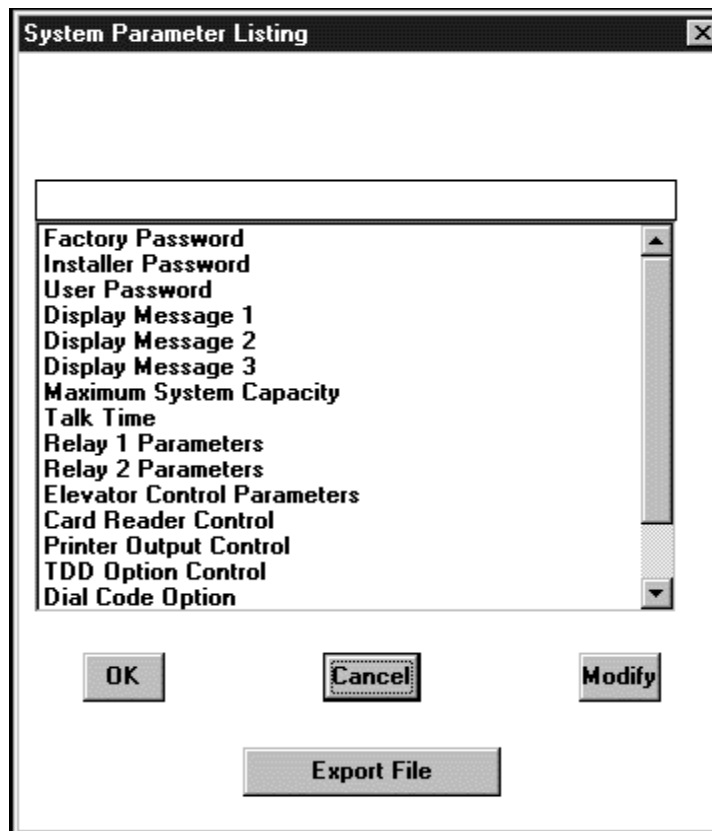

Figure 5.7.2a
f) The **System Parameter List** will then be displayed (Figure 5.7.2a). The file retrieved will contain any information entered at the local unit. Modifications can be made to the Parameter File as described in Section 5.6.2